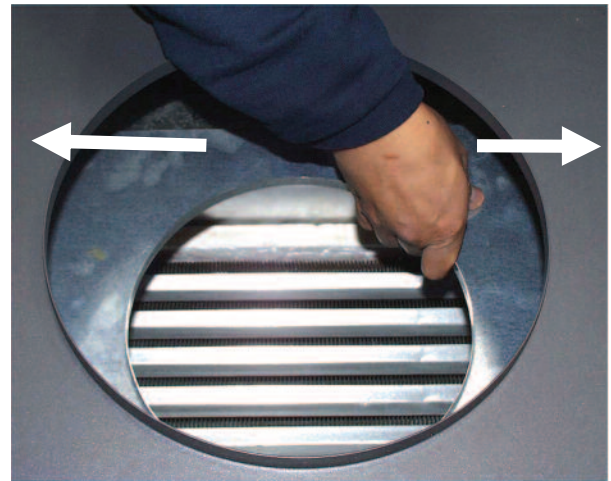

Fig. 6
5. Make sure the panel adaptor plate does not slide off the flue collector by moving it left to right. See **Fig. 6**.